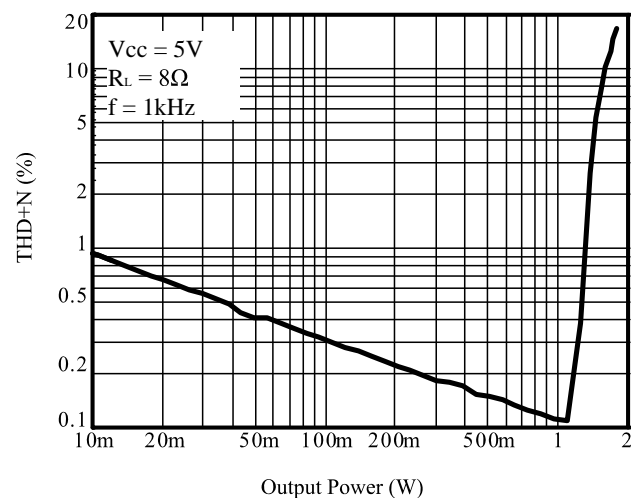

Figure 2 THD+N vs. Output Power
As shown in Figure 2, the IS31AP4066D consists of two pairs of operational amplifiers, forming a two-channel (channel A and channel B) stereo amplifier. External feedback resistors R_2 , R_4 and input resistors R_1 and R_3 set the closed-loop gain of Amp A (-out) and Amp B (-out) whereas two internal 20k Ω resistors set Amp A's (+out) and Amp B's (+out) gain at 1. The IS31AP4066D drives a load, such speaker, connected between the two amplifier outputs, -OUTA and +OUTA.
Figure 2 shows that Amp A's (-out) output serves as Amp A's (+out) input. This results in both amplifiers producing signals identical in magnitude, but 180° out of phase. Taking advantage of this phase difference, a load is placed between -OUTA and +OUTA and driven differentially (commonly referred to as "bridge mode"). This results in a differential gain of
Amplifying the lowest audio frequencies requires high value input coupling capacitors (C_1 and C_2) in Figure 2. A high value capacitor can be expensive and may compromise space efficiency in portable designs. In many cases, however, the speakers used in portable systems, whether internal or external, have little ability to reproduce signals below 150 Hz. Applications using speakers with this limited frequency response reap little improvement by using large input capacitor.
As shown in Figure 2, the input resistors (R_1 and R_3) and the input capacitors (C_1 and C_2) produce a -3dB high pass filter cutoff frequency that is found using Equation (7).
As an example when using a speaker with a low frequency limit of 150Hz, C_1 , using Equation (7) is 0.053 μ F. The 0.33 μ F C_1 shown in Figure 2 allows the IS31AP4066D to drive high efficiency, full range speaker whose response extends below 30Hz.